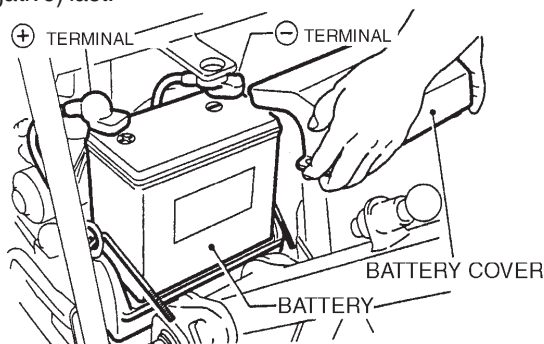

Figure 34. Battery Removal
2. When removing cable, disconnect the ground side (normally negative) first (Figure 34).